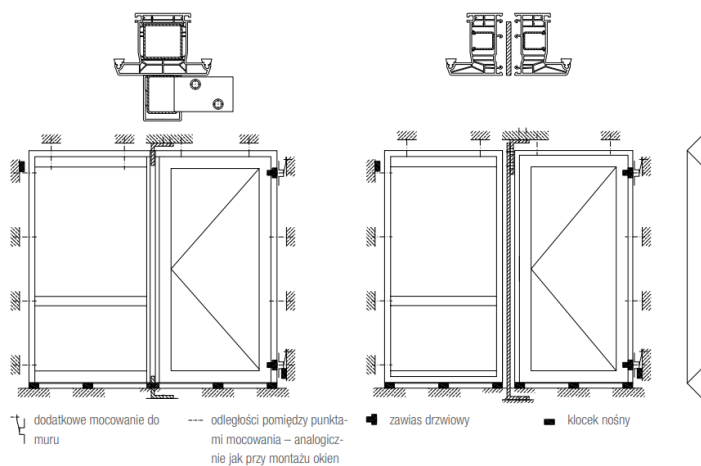

Fig. 4 Installation of a set of exterior doors
- For multi-part external doors with a post, as well as in the case of combined sets, reinforcing profiles should be additionally installed (Fig.4)